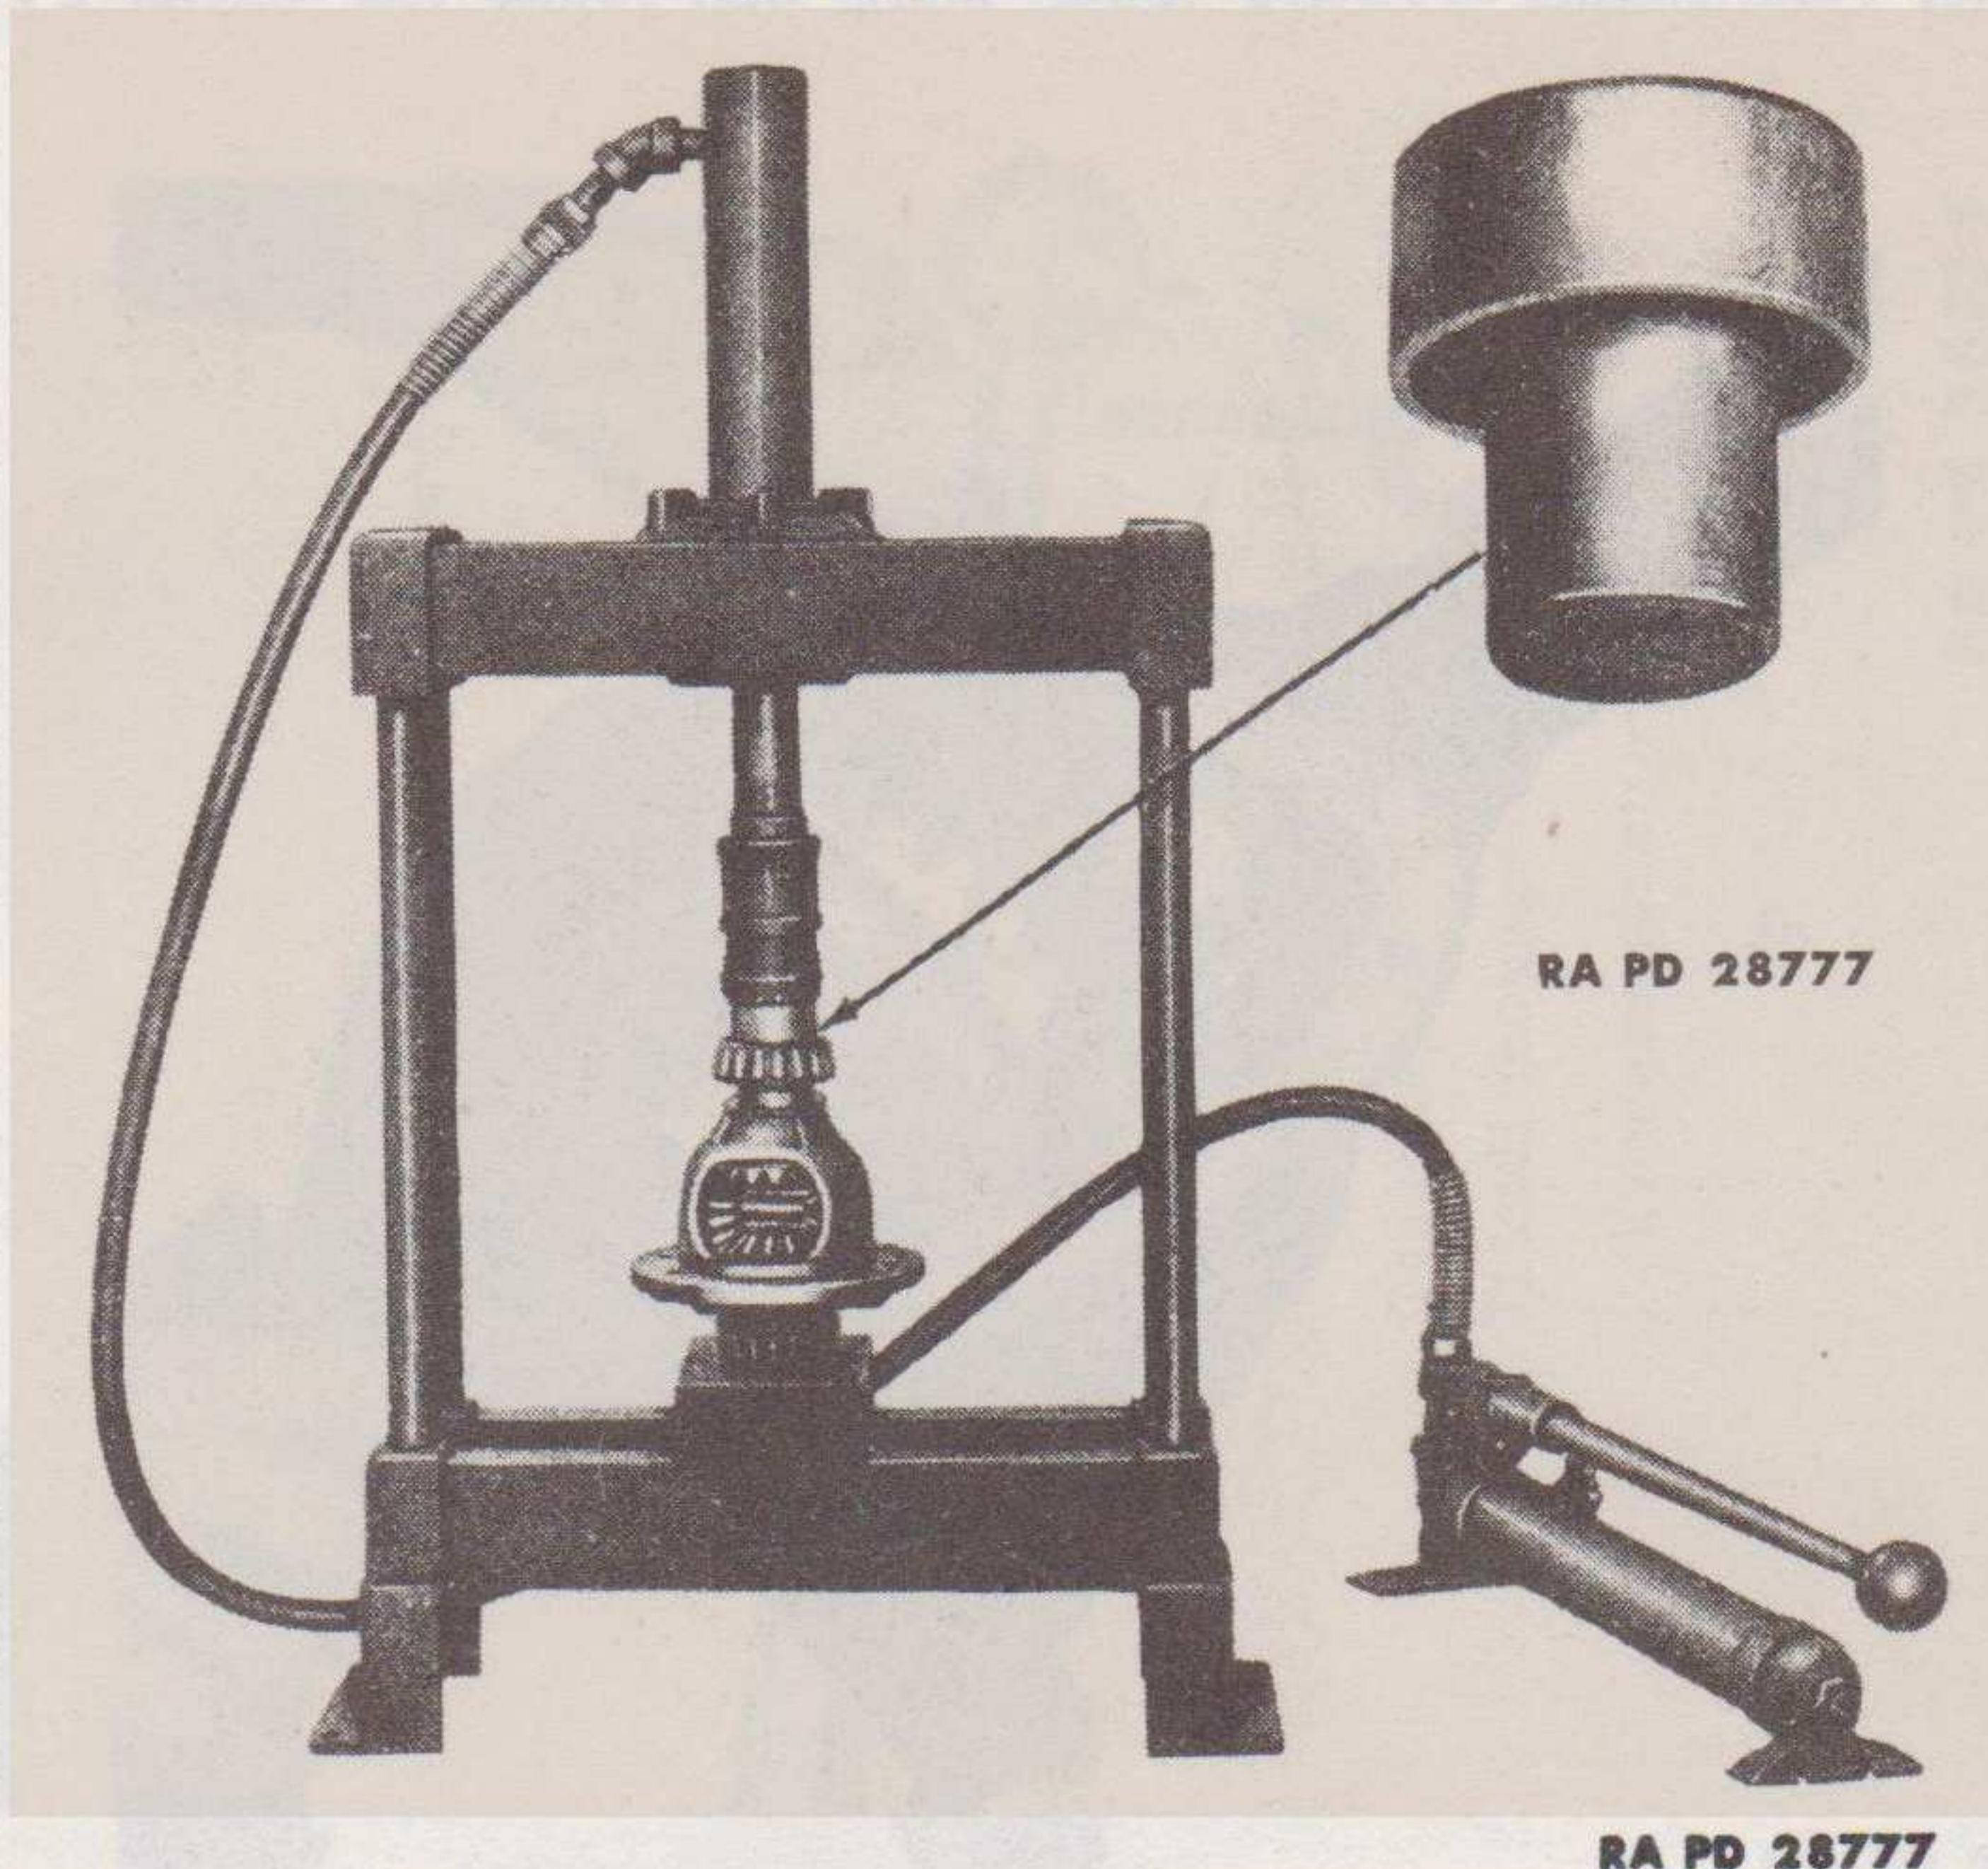

Figure 68 — Installing Differential Bearing, Using Special Replacer 41-R-2391-65
g. **Install Roller Bearings on Case** (fig. 68). If all the original parts have been used in the differential assembly, add the same thickness of shims as originally used and press the roller bearings on the case, then proceed with subparagraph h, below. If the original parts are not being used, or if the original shim thickness is not known, install the roller bearings on the case without the shims, and proceed with subparagraph i, below.